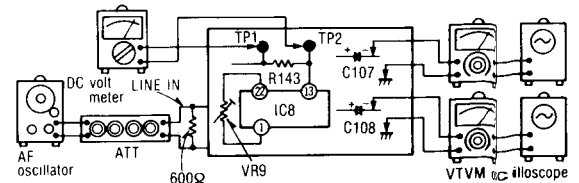

Fig. 20
1. Make the connections as shown in fig. 20 and apply 1kHz -27dB signal from LINE IN, and set the noise reduction selector to dbx tape position.